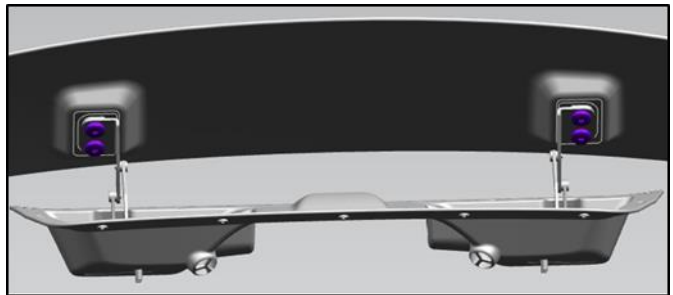

Figure 15
18. Attach the spoiler blade to the spoiler mechanism. Tighten the screws with your fingers. (Refer to Figure 15.)